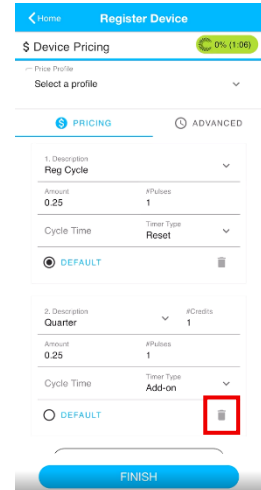

Figure 31
During registration the **Device Pricing** page (**Figure 31**) will populate. To set the profile:
1. Delete the bottom profile labeled **2. Description**, by pushing the trash can icon outlined in red in **Figure 31**.